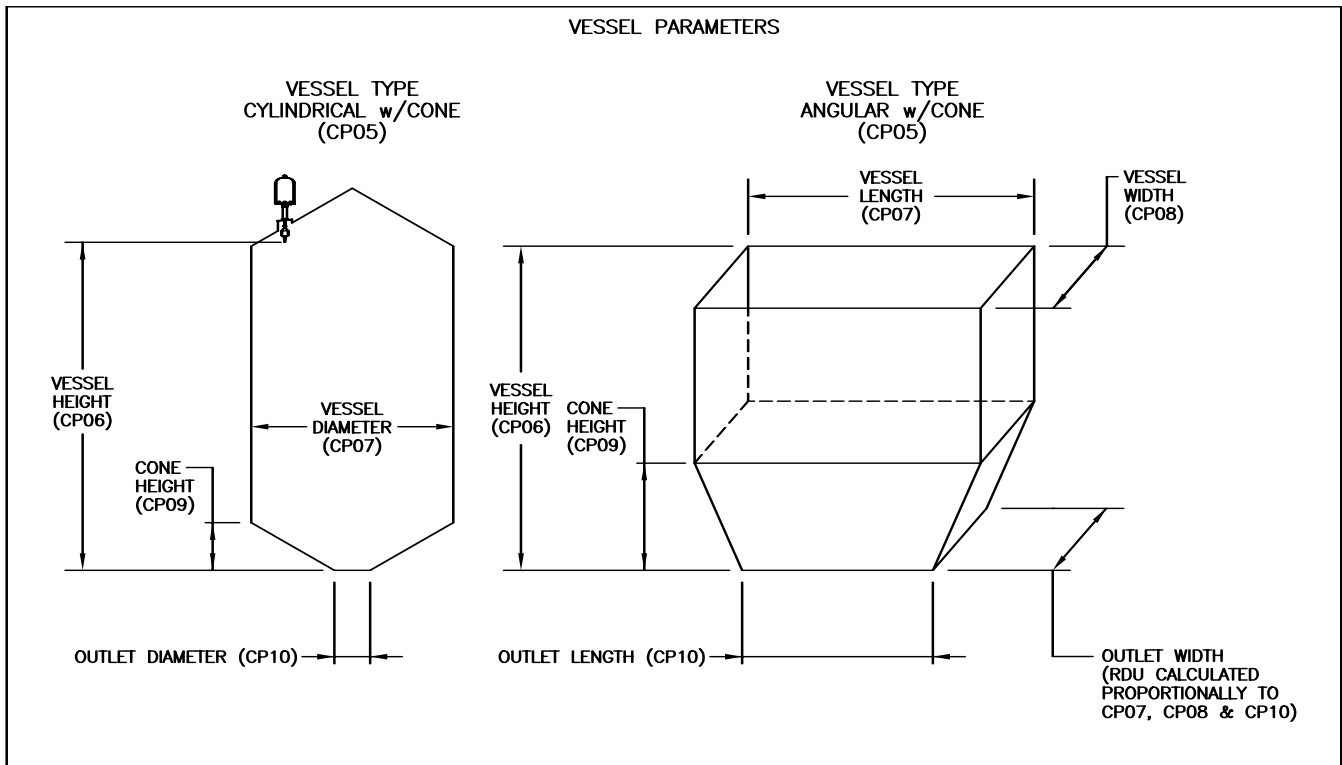

Figure 5
5.12 How to Achieve Volumetric/Weight Calculations (See Figure 5)